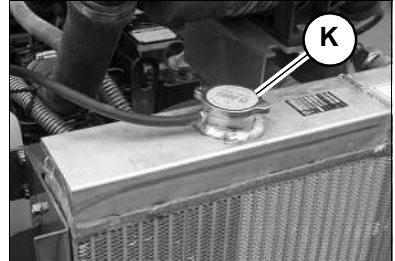

Figure 80 – Radiator Cap
4. Slowly loosen radiator cap (*K*, Fig. 80) and allow pressure to escape. Remove cap.